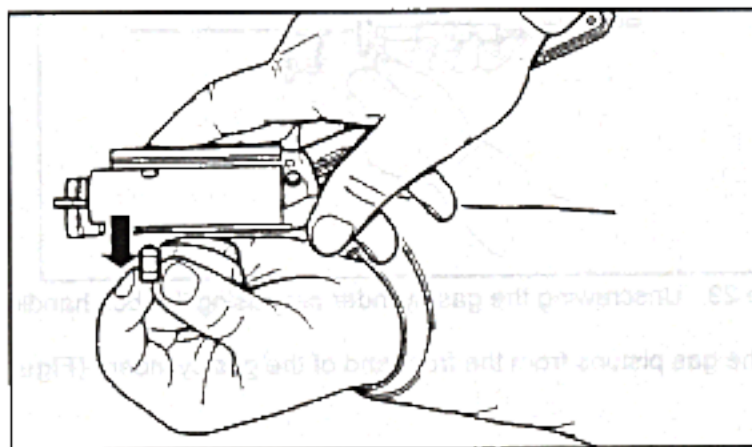

Figure 27. Removing the cam pin from the bolt assembly
D. **Cam pin** – Lift or shake the cam pin from the bolt assembly (Figure 27).